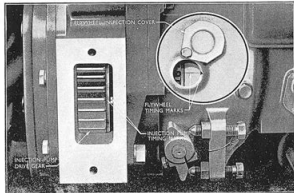

Fig. 23. Checking Injection Timing
1. Move aside the flywheel inspection cover on the left-hand side of the clutch housing to expose the flywheel and rotate the engine until, with No. 1 piston on its compression stroke, the appropriate timing mark on the flywheel (see below) is in line with the "V" notch on the edge of the inspection aperture (see inset Fig. 23).